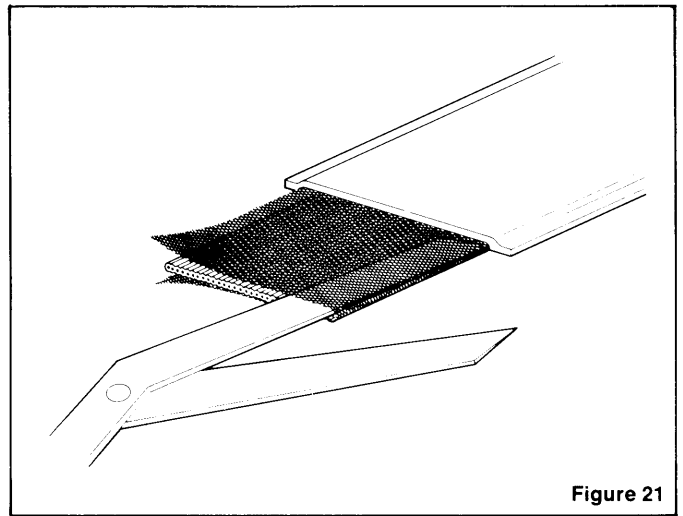

Figure 21
3. Slit the cable shield at both edges with scissors. (Figure 21)